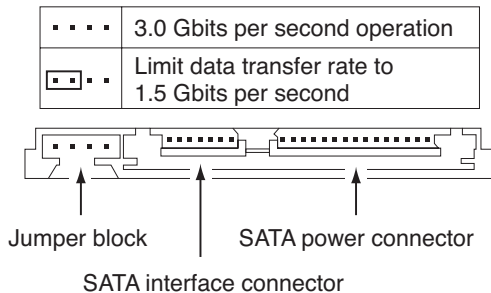

Figure 3. Serial ATA connectors and jumper options
- Configure the jumper block with a jumper as shown in Figure 3 below to limit the data transfer rate to 1.5 Gbits per second (and leave the drive connected to the SATA-equipped motherboard or host adapter that doesn't support autonegotiation) or
- Install a SATA host adapter that supports autonegotiation, set the drive jumper block to “3 Gbits per second operation” (see Figure 3 below), and connect the drive to that adapter. This option has the benefit of not limiting the drive to a 1.5 Gbits/sec transfer rate.